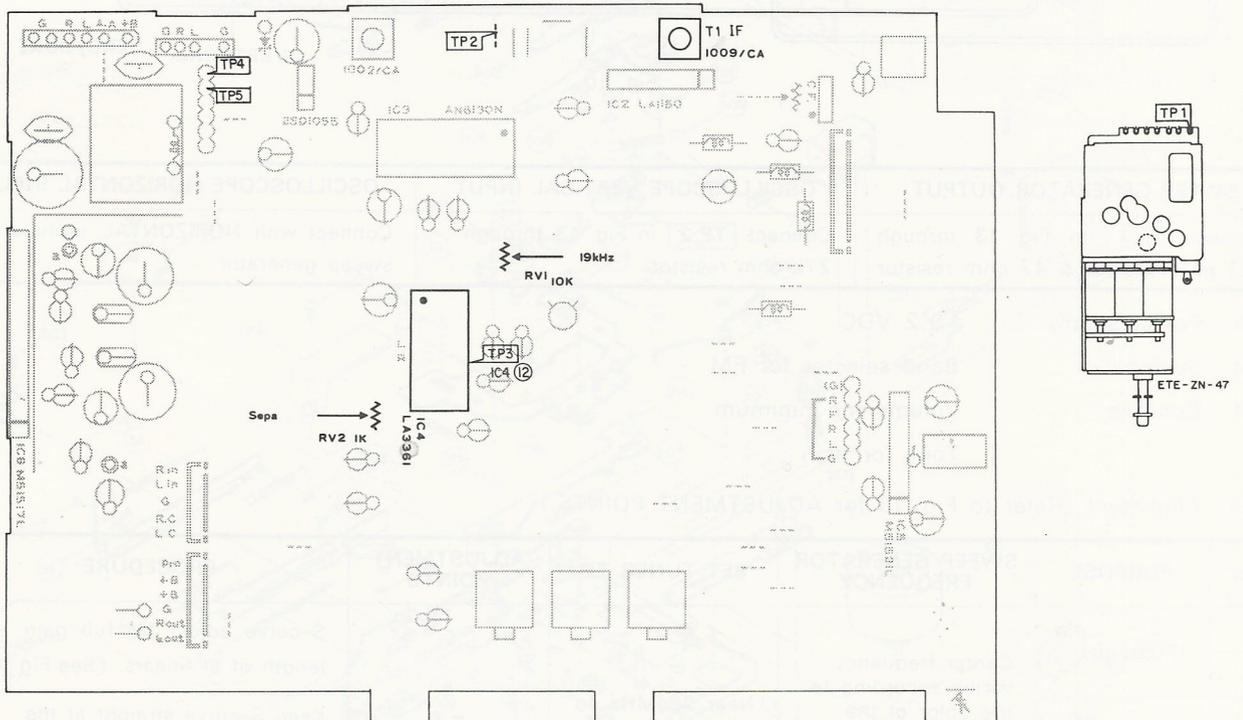

Fig. 13 (C33156430)
(2) Alignment (Refer to Fig. 13 for ADJUSTMENT POINTS.)
(1) Alignment (Refer to Fig. 13 for ADJUSTMENT POINTS.)
(1) Connections
(2) Alignment (Refer to Fig. 13)